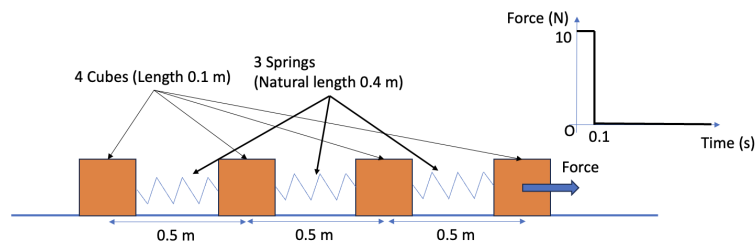

Figure 4: Finite-element model.
- (i) Connect 4 identical cubes (length 0.1m, mass 1kg) with 3 springs (stiffness 10N/m, natural length 0.4m). The spring terminals should be connected to the external surface of each cube, as shown in Figure 4. The initial distance between the centres of the cubes should be 0.5m.
- (ii) Apply a pulse-like force (magnitude 10N, duration 0.1s) to the right cube, as shown in Figure 4. Plot the trajectory of each cube over time, within an interval of 10 seconds.